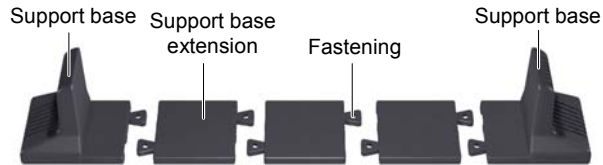

Figure 2-5 Installing support base with support base extension
4. If battery module installation is necessary, take out the support base extensions delivered with the battery module, and then assemble the support base extensions and the support bases together through the fastenings, as shown in Figure 2-5.